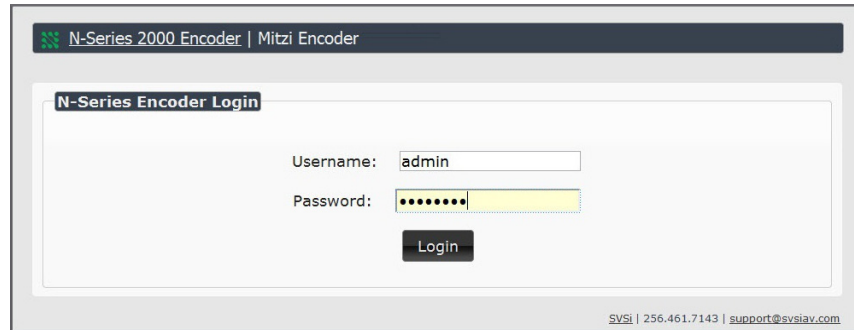

Figure 2-8. Login Page
4. Double-click the Encoder's name in the list. The **N-Series Encoder Login** page is displayed (see Figure 2-8). Use the following default login credentials to log in for the first time. These can be changed later on the **Settings** page.